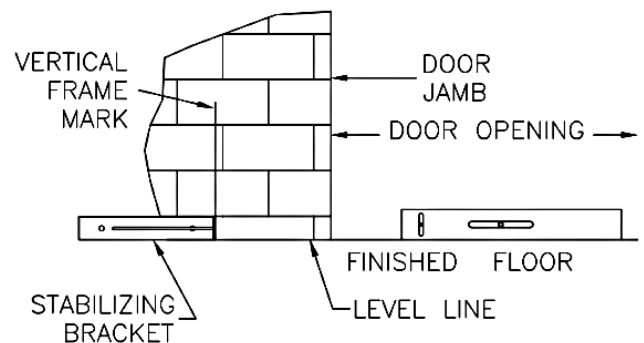

FIG. 3A
- * Place Bracket on its side, flush to wall along top of level line, extending away from door opening (Figure 3a).